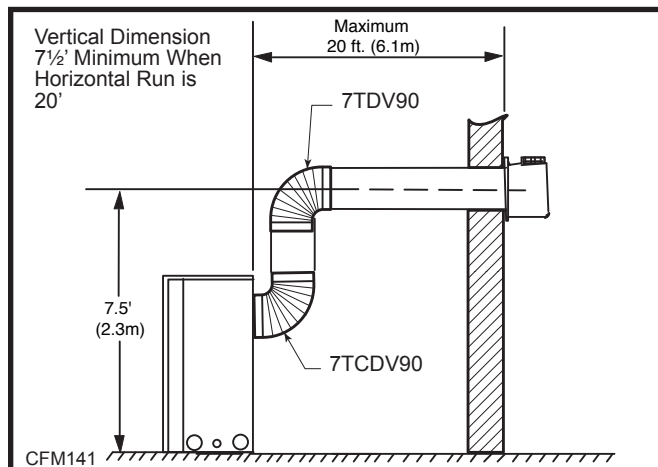

Fig. 26 Maximum number of 90° elbows is three (3).
- The maximum horizontal vent run is 20 ft. (6.1 m) when the vertical vent rise is 7½ ft. (2.3 m). (Fig. 26)